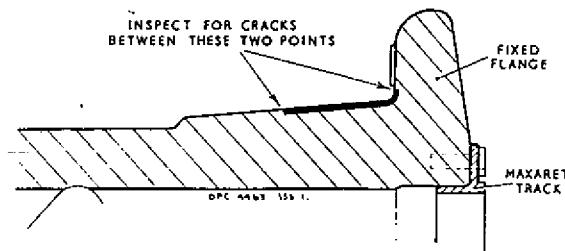

Fig.2 Crack examination area
(1) Examine the hub and flange for damage and corrosion particularly in the vicinity of the flanges and tyre bead seats. Excessive damage in these areas will render the wheel unserviceable. Repairable damage therefore, is limited to superficial cuts and abrasions. Carefully dress out superficial cuts and abrasions and slight surface corrosion with a smooth file and emery cloth blending the sharp edges to maintain the essential curvature (where applicable) as far as possible. The maximum permitted depth of dressing is 0.020 in. After dressing, restore the protective treatment in accordance with AP 119A-0601-1C Chap.5.
(2) Carefully examine the hub and loose flange for cracks. Cracks are not permitted. An examination for cracks must be made particularly on wheels which have been repaired in accordance with RP214. Such wheels may be identified by the code RP214 stamped in close proximity to the wheel part number. RP214 carried out on earlier wheels only has since been cancelled. This scheme renews the Maxaret track on wheels which have been damaged. Instances have occurred of cracks appearing in the inner radius at the junction of the fixed flange and the main hub body.
(3) Check for cracking in the area shown in fig.2, using the ultrasonic and /or eddy current method of crack detection.